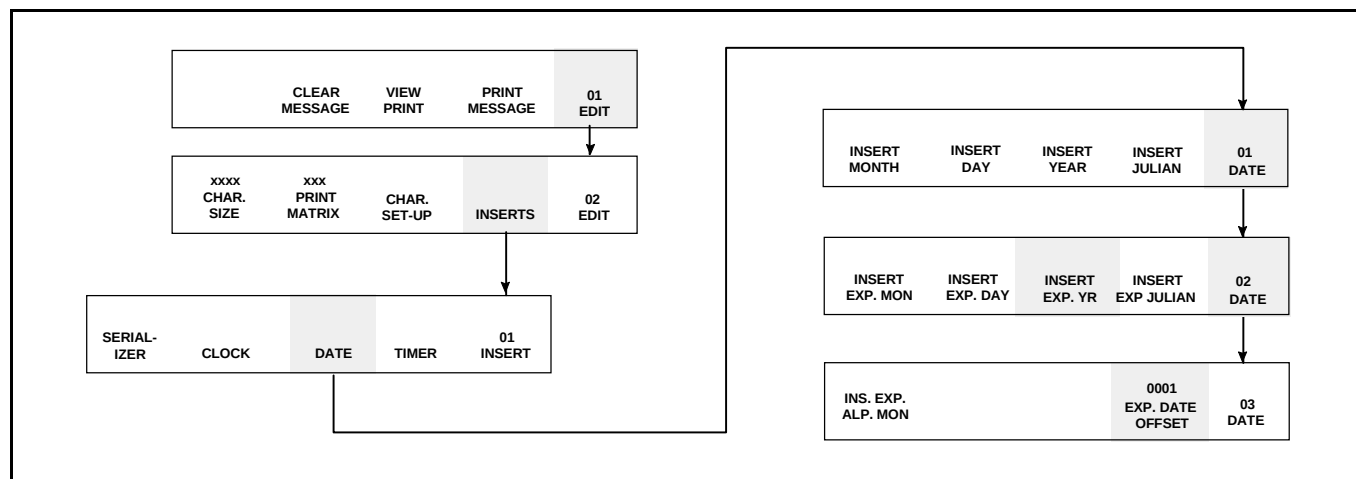

Figure 6-32. Accessing Frame <02 DATE>
1. Begin in Frame <02 DATE>. Refer to Figure 6-32.
4. Press **F5** to go to Frame, <03 DATE>. Refer to Figure 6-32.